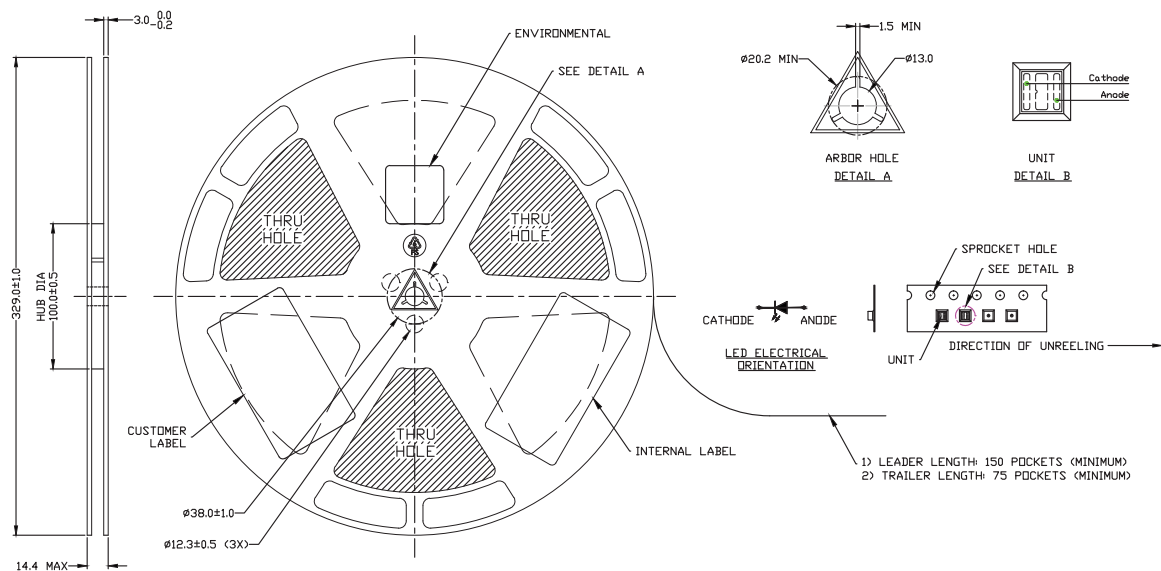

Figure 11a. Reel dimensions for LUXEON SunPlus 20 Line.
Notes for Figures 11a and 11b:
- Notes for Figures 11a and 11b: